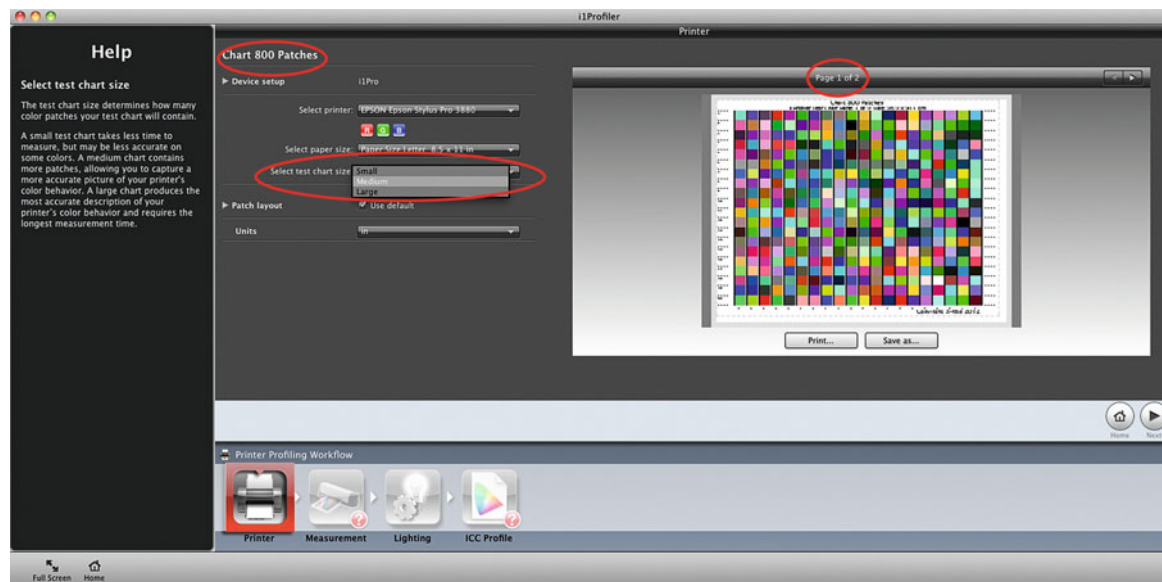

FIGURE 8.20 Initial Printer Profiling window in X-Rite i1 Profiler software, selecting the test chart size. The Basic mode medium sized chart uses 800 patches.
3. *Select a number of patches for printing.* In most cases, the more patches in the printer profiling test chart, the more we learn about the printer and paper combination, and therefore the better the quality of the profile. (Of course, one side effect of this is that you'll have to use more paper and ink to profile the printer.) In Basic mode *X-Rite i1 Profiler* gives three options for the test chart size: small, medium and large, as shown in Figure 8.20. The small test chart has 400 color patches; the medium chart has 800 patches; and the large chart has 1600 patches. In the Advanced mode *i1 Profiler* can produce a chart or charts with up to 6000 patches. The beginning of Chapter 9 has a comparison of different ICC printer profiling applications, including the number of patches in the test charts.
At this point, you have two options, as you can see in Figure 8.20: